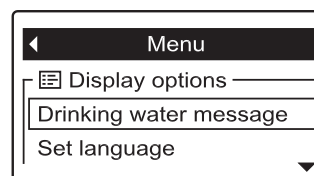

FIG. 106
2. Press the remote's SELECT (O) button to display the drinking water status menu (See Figure 106).
3. If necessary, press the DOWN (▼) button to scroll through the menu options until **Drinking water message** is highlighted in a box (See Figure 106).
5. The current message has a black dot next to it. Press the DOWN (▼) or UP (▲) buttons to scroll between the two messages, then press SELECT (O) to choose one.
6. Press the SELECT (O) button. The display will go back to the menu shown in Figure 106.